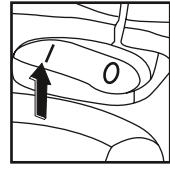

Fig. 5
5. Turn ON the motor into the 'I' (ON) moving the switch position. (Fig. 5)